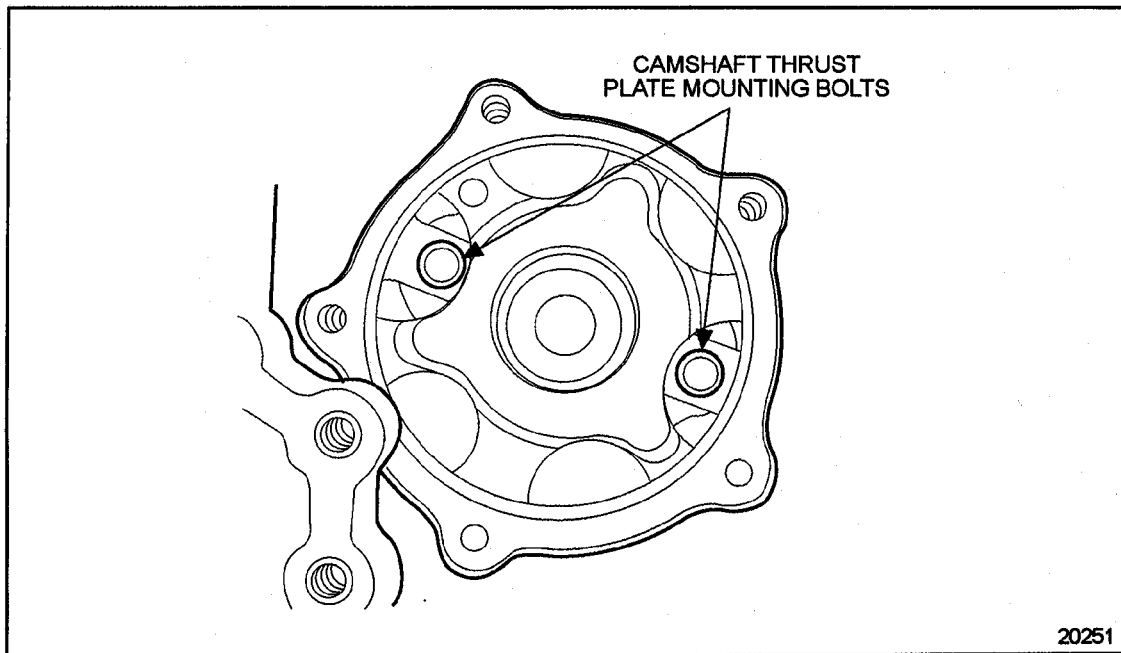

Figure 1-358 Camshaft Thrust Plate Mounting Bolts
3. Working through the access holes in the camshaft drive gear, remove the two bolts that retain the camshaft thrust plate to the cylinder head and No. 1 camshaft bearing cap. See Figure 1-358.